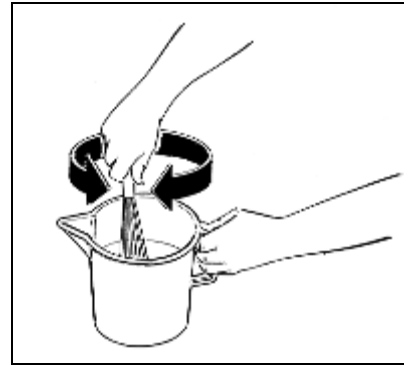

Fig. 29
- Dilute and mix the preparation in a separate container according to the manufacturer's instructions (fig. 29) without exceeding the following quantities: